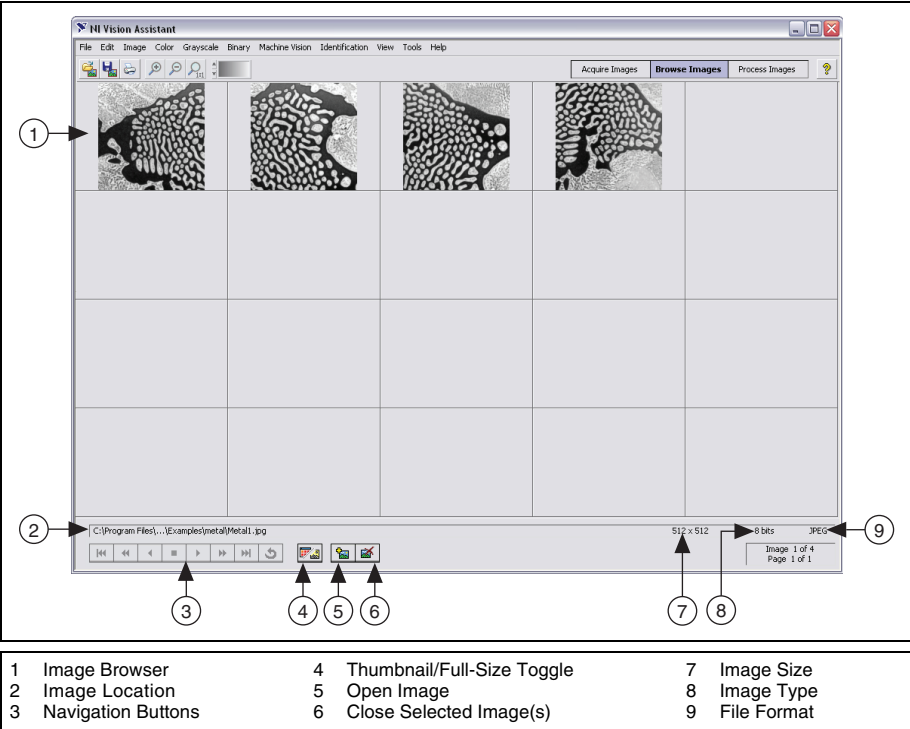

Figure 2-1. Image Browser
- **Image Browser**—Contains all of the images currently loaded in Vision Assistant. You can select an image to process by double-clicking it in the Image Browser. Refer to Figure 2-1, *Image Browser*, to view images loaded into the Image Browser.
Vision Assistant loads the image files you opened into the Image Browser, as shown in Figure 2-1. The Image Browser provides information about the selected image, such as image size, location, and type.
You can view images in either thumbnail view, as shown in Figure 2-1, or in full-size view, which shows a single full-size view of the selected image.